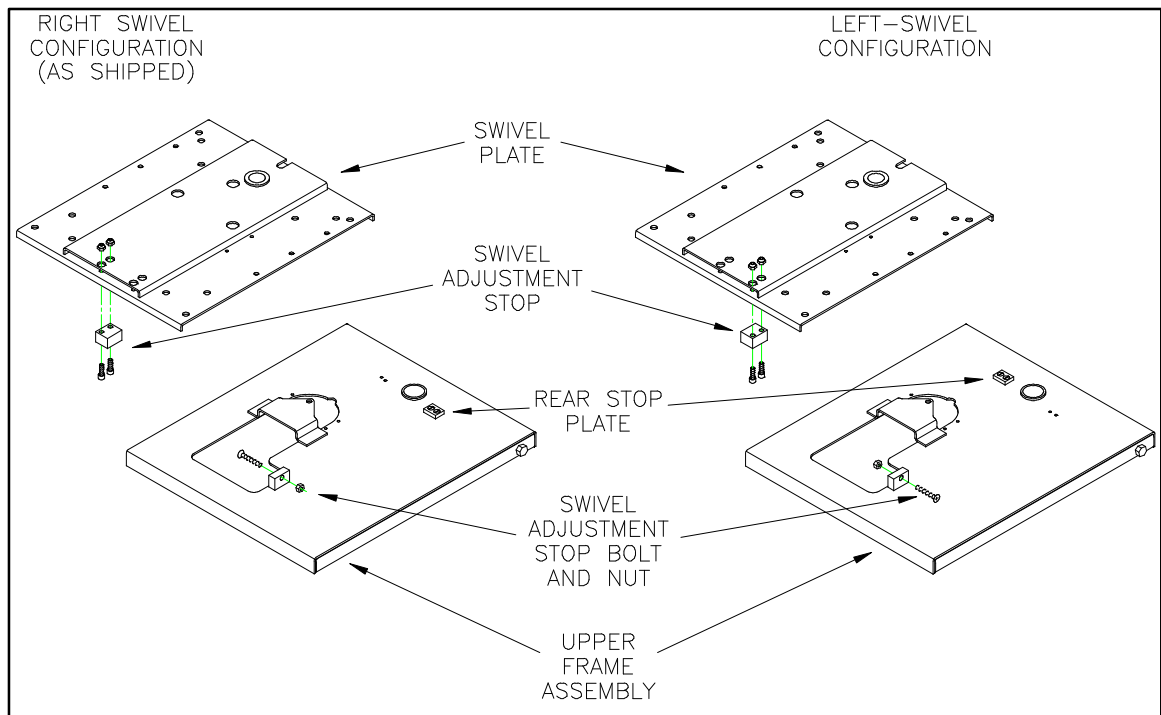

FIGURE 2-1: SWIVEL PLATE CONVERSION
4. Refer to **Figure 2-1**. At underside of Swivel Plate, remove and reposition Swivel Adjustment Stop, Rear Stop Plate, and Swivel Adjustment Stop Bolt and Nut as shown.